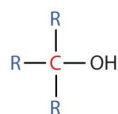

Figure 23.1g. Structure of tertiary (3°) alcohol (credit: Intro Chem: GOB \(V. 1.0\), CC BY-NC-SA 3.0).
- A **tertiary (3°) alcohol** is one in which the carbon atom (in red) with the OH group is attached to *three* other carbon atoms (in blue) (Figure 23.1g.). Its general formula is R_3COH .